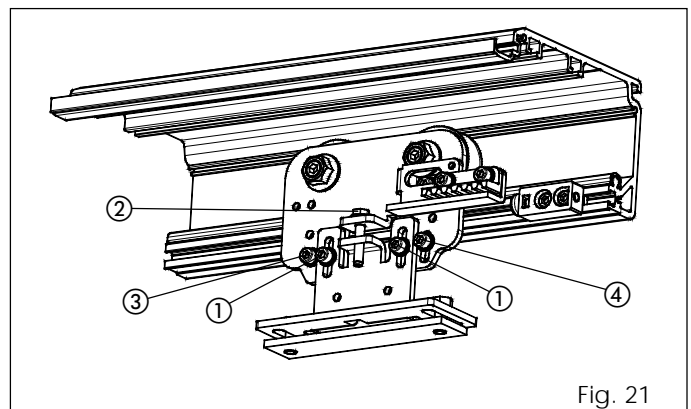

Fig. 21
- Slightly loosen the two hexagon head screws in fig. 21 ref. ①.
- Turn the screw (fig. 21 ref. ②) clockwise to raise the leaves or anti-clockwise to lower them.
- Loosen the two hexagon head screws (fig. 21 ref. ③ and ④).
- Slide the screw fig. 21 ref. ④ inside the slot, so that, while the carriage is moving, the counter wheel slides on the profile without jamming.